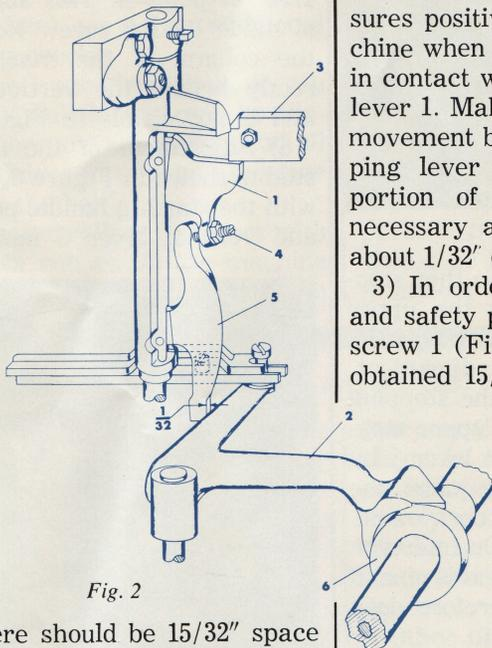

Fig. 2
2) Referring to figure 2, the forked lever 2 is next to be adjusted. With the machine backed up slightly so the stopping pawl 3